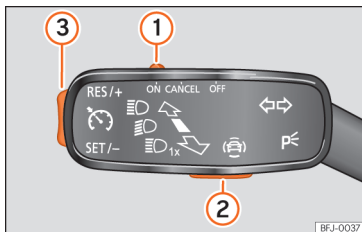
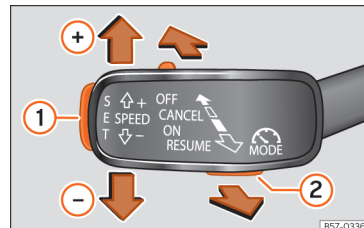

Fig. 153 On the turn signal lever: buttons to operate the speed limiter.
Fig. 154 On the left of the steering column: buttons to operate the speed limiter.
To change between the driving assistance systems, press button  » Fig. 153  or button  » Fig. 154 , then use the right thumbwheel on the multifunction steering wheel to select from the instrument cluster menu and press the thumbwheel to confirm your selection.
- Move control »» Fig. 153 ① to position **ON** and press button ②. Then use the right thumbwheel on the multifunction steering wheel to select the limiter from the instrument cluster menu¹⁾.
- While driving, press button »» Fig. 153 ③ in the area **SET/-**.
You can set the speed using button »» Fig. 153 ③:
- Move control »» Fig. 153 ① to position **OFF**.
control »» Fig. 153 ① to position **CANCEL** or press button ②.
After overtaking, the speed limiter can be activated with the previously programmed speed by pressing button »» Fig. 153 ③ in the area **RES/+**.
- Move the lever towards the steering wheel to position **ON** and press button »» Fig. 154 ②.
- While driving, press button **SET** »» Fig. 154 ①.
- Press the button **SET** »» Fig. 154 ① to reduce speed in small increments of 1 km/h (1 mph).
If you want to temporarily deactivate the speed limiter, e.g. for overtaking, move the lever to the pressure point **CANCEL** or press button »» Fig. 154 ②.